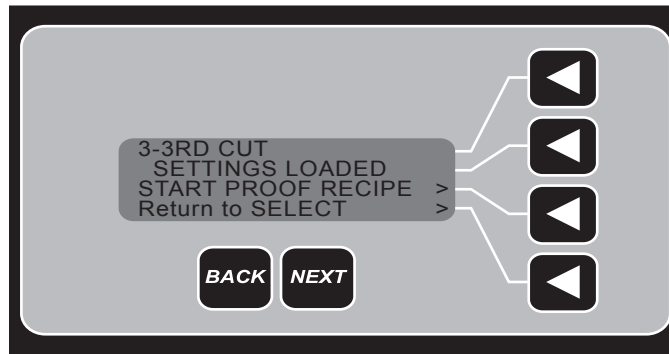

Fig. 10
- To enter the recipe settings press the START PROOF RECIPE (Fig. 10). Temperature and humidity setting will display for 5 seconds and then show the actual values.